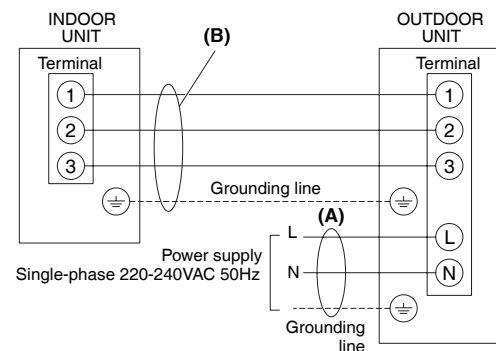

Fig. 6
Refer to the wiring system diagram (Fig. 6) for the meaning of (A) and (B) in Table 2.